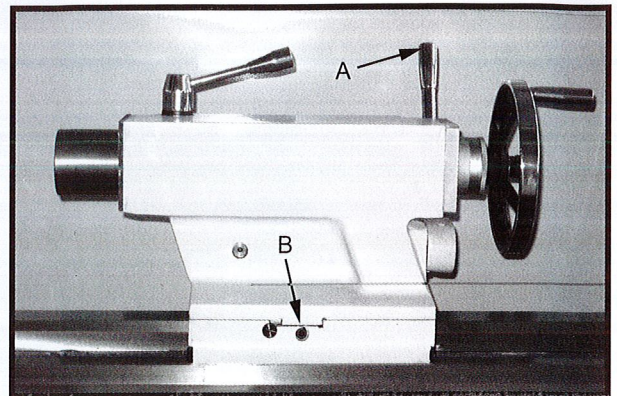

Fig.19
1. Loosen tailstock in position by lowering locking handle (A, Fig.19) and loosening hexagon head eccentric shaft.
2. Alternately loosen and tighten front and rear set screws (B, Fig.19). **Note:** Front side set screw shown.